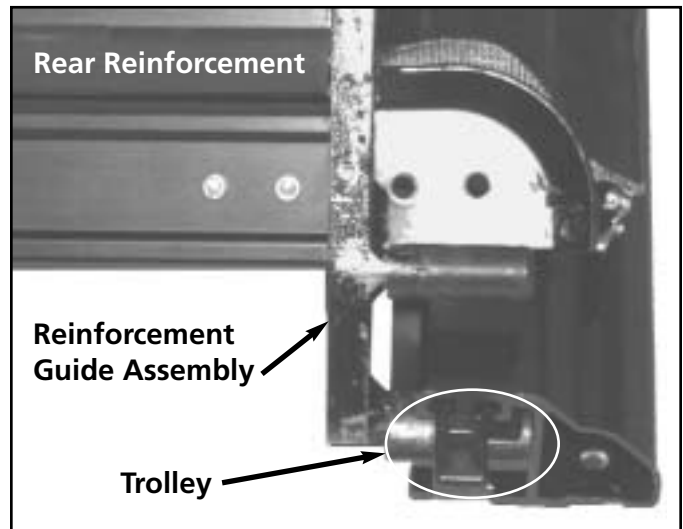

Figure S-46
9. Pull the tonno cover rearward by pulling on the rear reinforcement until the trolleys are exposed at the end of the tracks. See figure S-46 on next page.